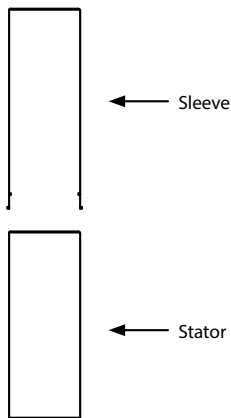
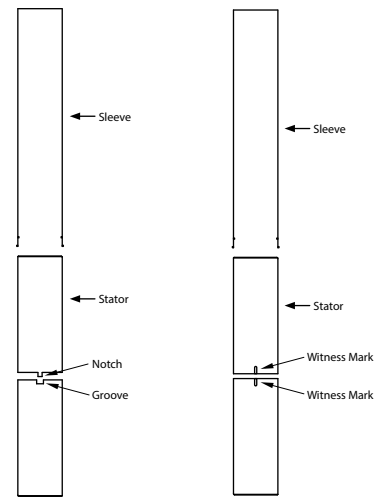

Figure 8
Figure 11
- Remove PTFE stator from stator sleeve (see Figure 8).
- Insert PTFE stator into stator sleeve (see Figure 8). **NOTE:** When assembling the 1851 series stator insert, ensure that the notch on one half is lined up with the groove on the other half before inserting into sleeve (see figure 11). **NOTE:** When assembling the 752 series stator, ensure that the witness marks on each half of the atator insert are lined up before inserting into sleeve (see figure 12).